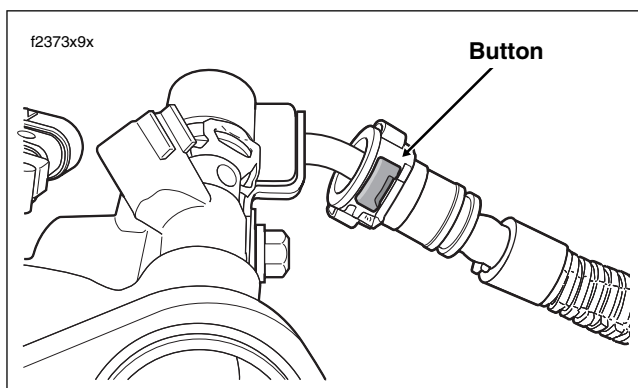

Figure 9-25. Remove Fuel Supply Line From Supply Tube
12. Depress button on fuel supply line and remove from fuel supply tube. See Figure 9-25.